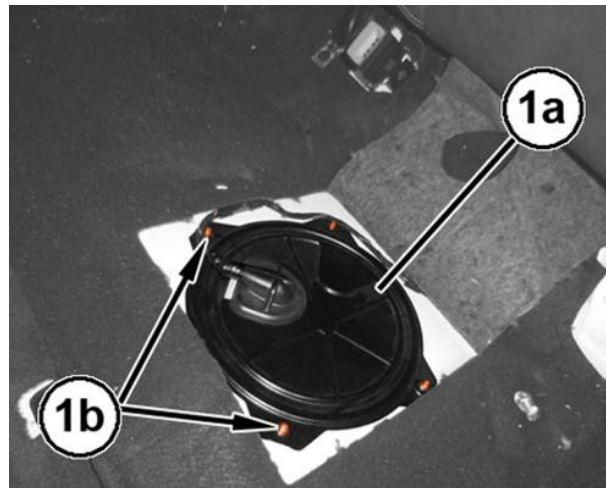

Figure 1 – FDM Cover – Giulia Shown, Stelvio Similar
8. Lift the cover, undo the screws (1a) and move the FDM access cover (1b) to one side (Figure 1).